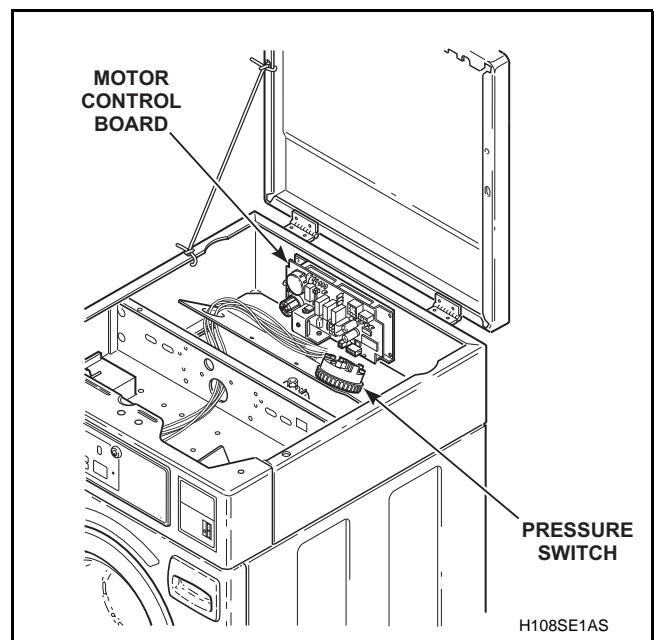

Figure 24
- Remove four screws holding motor control board to back of control cabinet wrapper. Refer to *Figure 24*.
- Position the new motor control board on back of control cabinet wrapper as shown in *Figure 24*. Reinstall screws (removed in Step “g”) and tighten firmly.
- h. Squeeze in locking tabs on pressure switch and push switch out toward rear of control shield. Refer to *Figure 24*.
- Remove screws holding motor control board to rear of control cabinet wrapper. Refer to *Figure 24*.